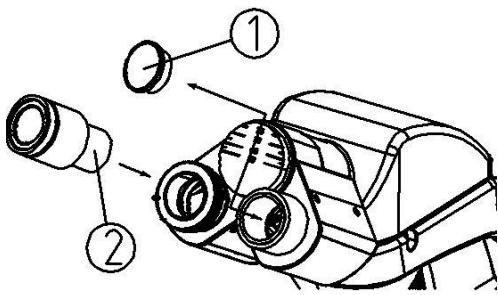

Figure 04
1. Remove the eyepiece tube cover ①.
2. Insert the eyepiece ② into the eyepiece tube until it is against the surface. (as shown in Figure 04)